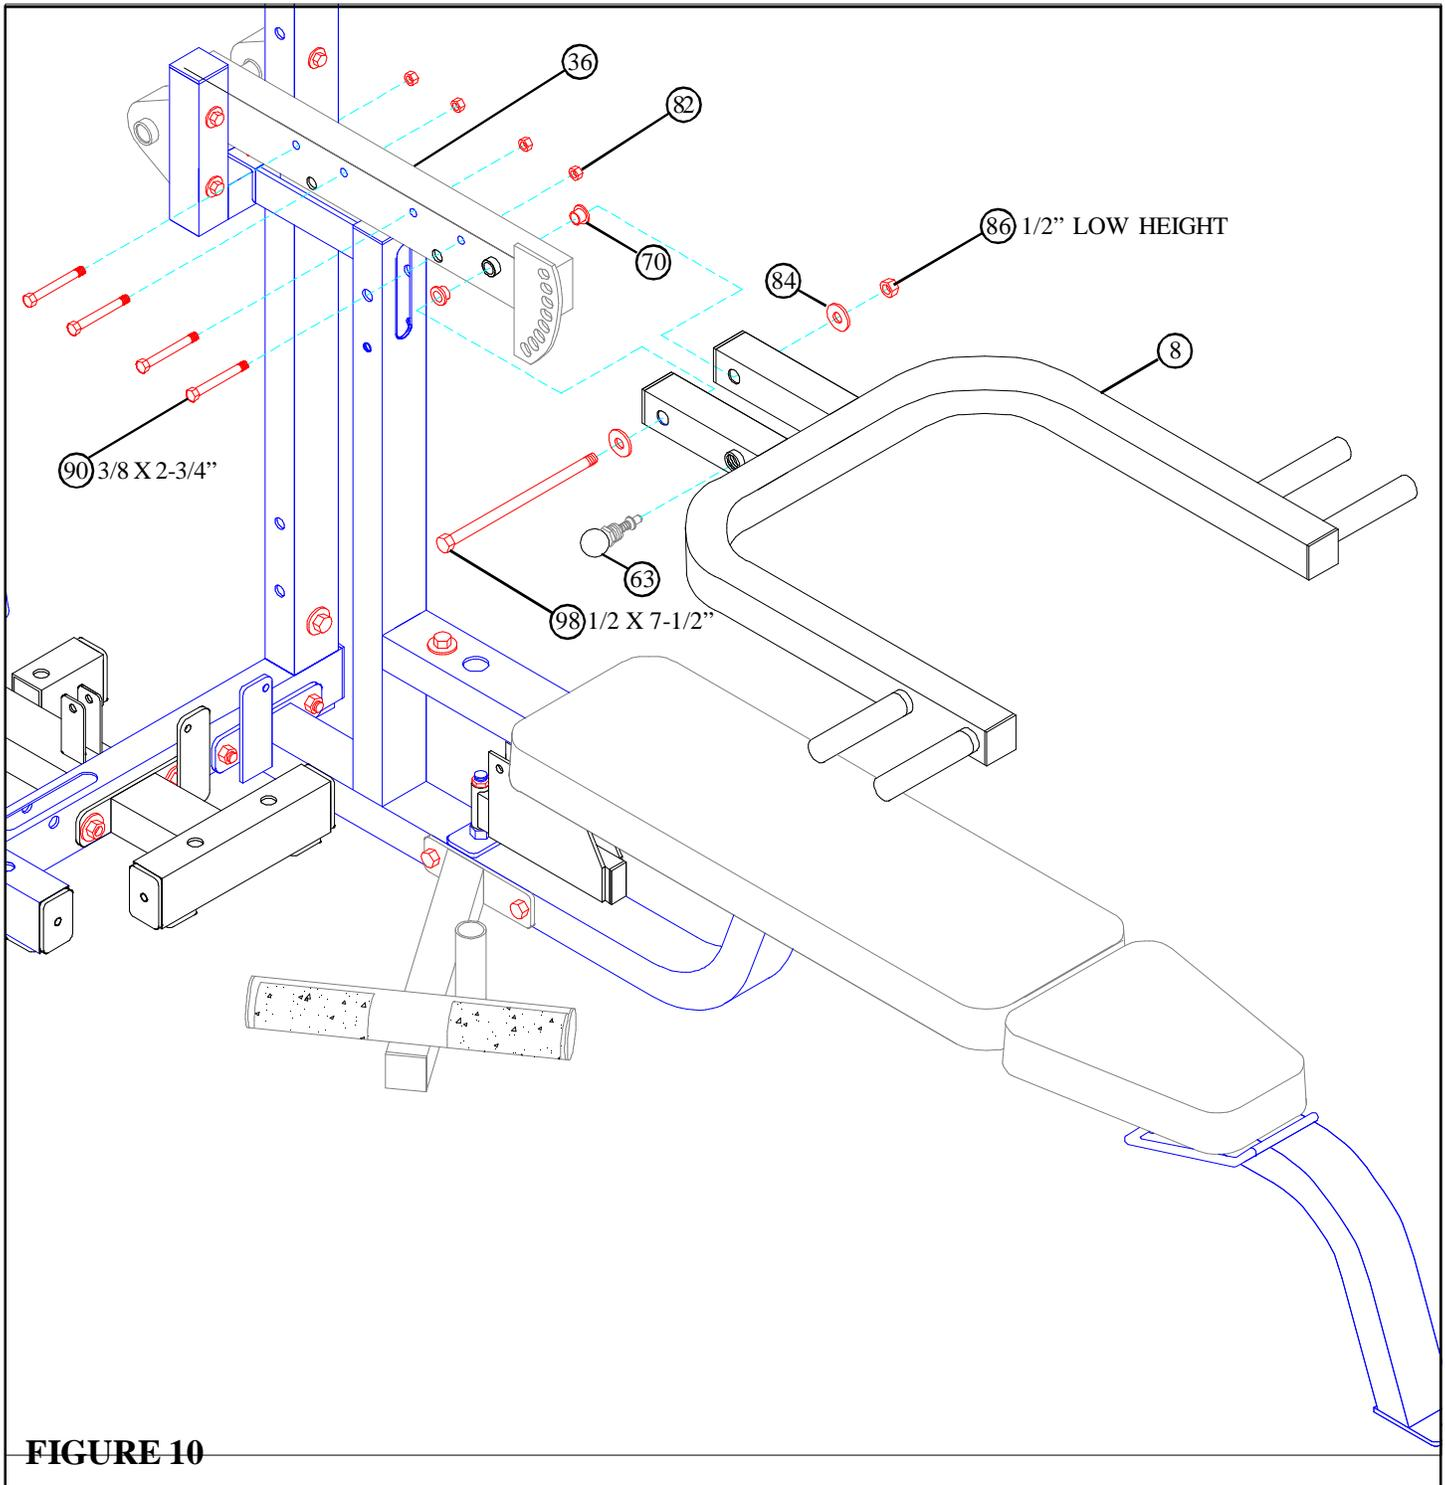

FIGURE 10
- **SECURELY** assemble one 1/2 X 3-1/2" SPRING PIN (63) to the PRESS ARM (8) as shown in FIGURE 10.
- **SECURELY** assemble the PRESS ARM (8) to the PRESS ARM ADJUST (36) using one 1/2 X 7-1/2" BOLT (98), two 1/2" WASHERS (84), two 1/2" FLANGE BEARINGS (70), and one 1/2" LOW HEIGHT LOCK NUT (86). (**NOTE: SECURELY tighten, then back nut off 1/4 to allow the PRESS ARM to rotate freely.**)
- **SECURELY** assemble four 3/8 X 2-3/4" BOLTS (90) and four 3/8" LOCK NUTS (82) to the PRESS ARM ADJUST (36) as shown in FIGURE 10.